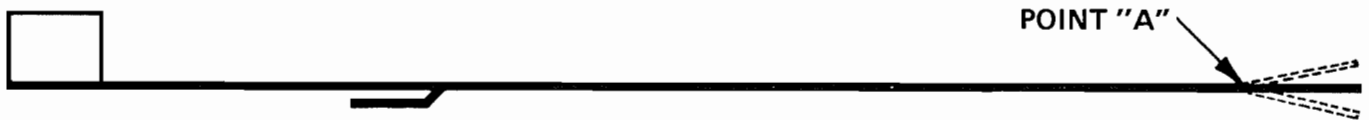

Figure 4-5. RHODES Damper Arm — Tension Adjustment
- a. Tension. Each Damper Arm is actually a Leaf Spring. Tension can be increased or decreased by "ironing" a slight curve in the part with your two fingers. Another way is to pull upward or downward on the arm at Point "A" (Figure 4-5). Added tension will result in a stiffer Damper response.